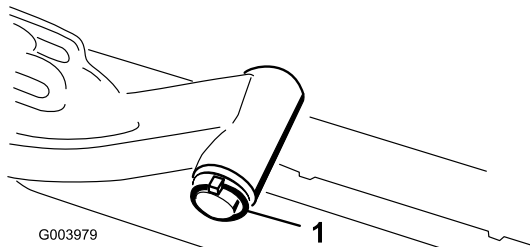

Figure 11
A. Remove the lynch pin and washer securing the lift-arm-pivot shaft to the lift arm and slide the lift-arm-pivot shaft out of the lift arm (Figure 11).
C. Insert the lift-arm shaft into the lift arm and secure it with the washer and lynch pin (Figure 11).